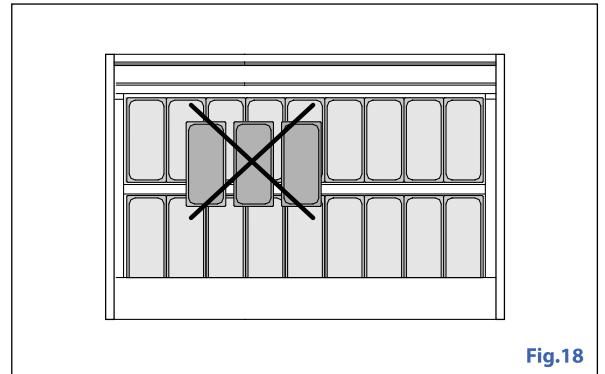

Fig.18
**Never superpose** the ice cream tubs (fig.18).